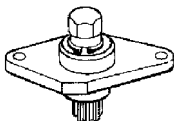

Fig. 1: View of Flywheel Turning tool (49FA 42 065)
- 3) Turn the Flywheel Turning Tool counterclockwise (as shown in Fig. 1 until the force is reduced considerably).